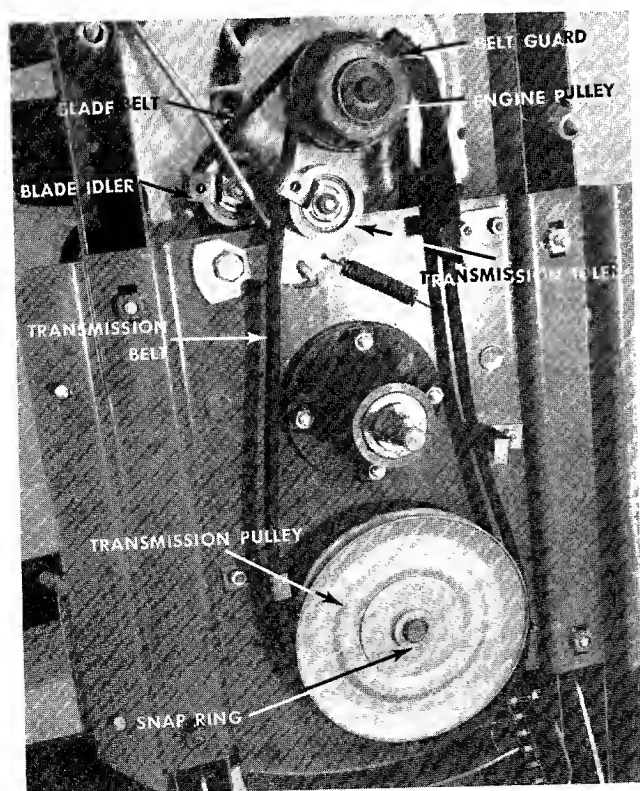

FIGURE 20. BELT SYSTEM
Step 4. Remove the transmission belt from the engine pulley. It may be necessary to spring the belt guard out of the way. When installing the new belt be sure to put the belt guard back in the original position. See figure 20.
Step 5. Remove the belt from the transmission idler. See figure 20.
Step 6. Using snap ring pliers, remove the snap ring on the transmission pulley and slide the pulley out until the belt can be removed. See figure 20.
Step 4. Remove the transmission belt from the engine pulley. See figure 20.
It may be necessary to spring the belt guard out of the way. When installing the new belt be sure to put the belt guard back in the original position. See figure 20.
CREEPING OR BELT WEAR See figure 20.
DRIVE PULLEYS See figure 20.
BELT WEAR—Belt Guards and Clips See figure 20.
CREEPING See figure 20.